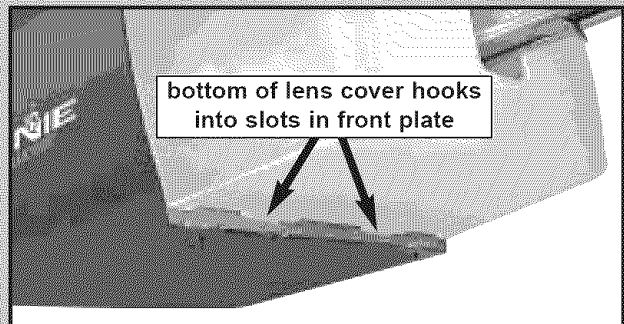

Fig. 5-1
- Hook bottom hinges into slots at bottom of front plate. **Fig. 5-1.**